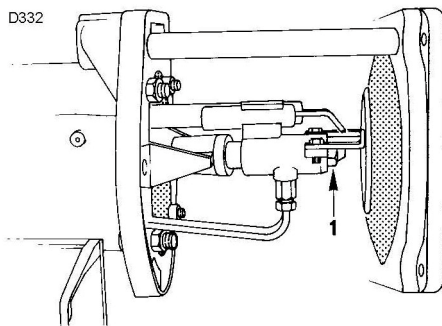

Fig. 13
The nozzle for the 1st stage of operation is the one lying beneath the firing electrodes Fig. (14). With the burner open on the slide bars, the two nozzles (1, Fig 13) are removed using a 16 mm wrench. When refitting do not use any sealing products such as gaskets, sealing compound, or tape. The nozzles must be screwed into place tightly but not to the maximum torque value provided by the wrench.